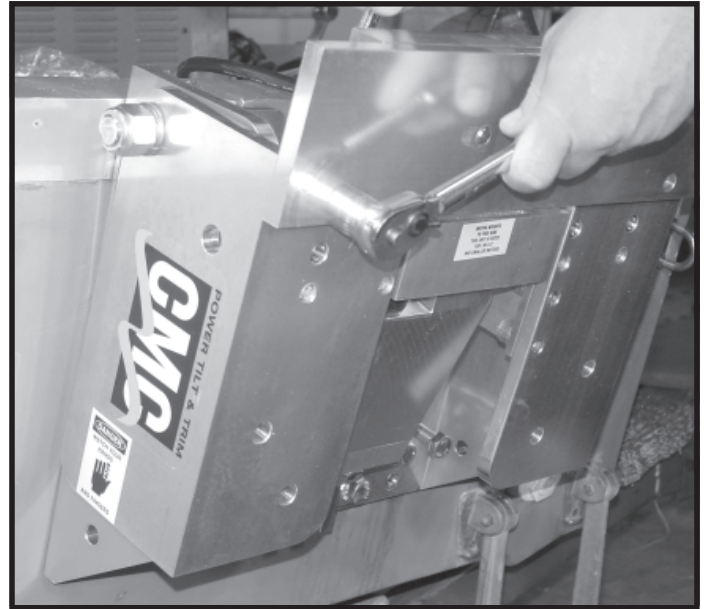

FIG. 12
Step 7B: Line up the two holes of the adapter plate with top two mounting holes of the PT-130. Insert bolts and tighten. (FIG. 12)